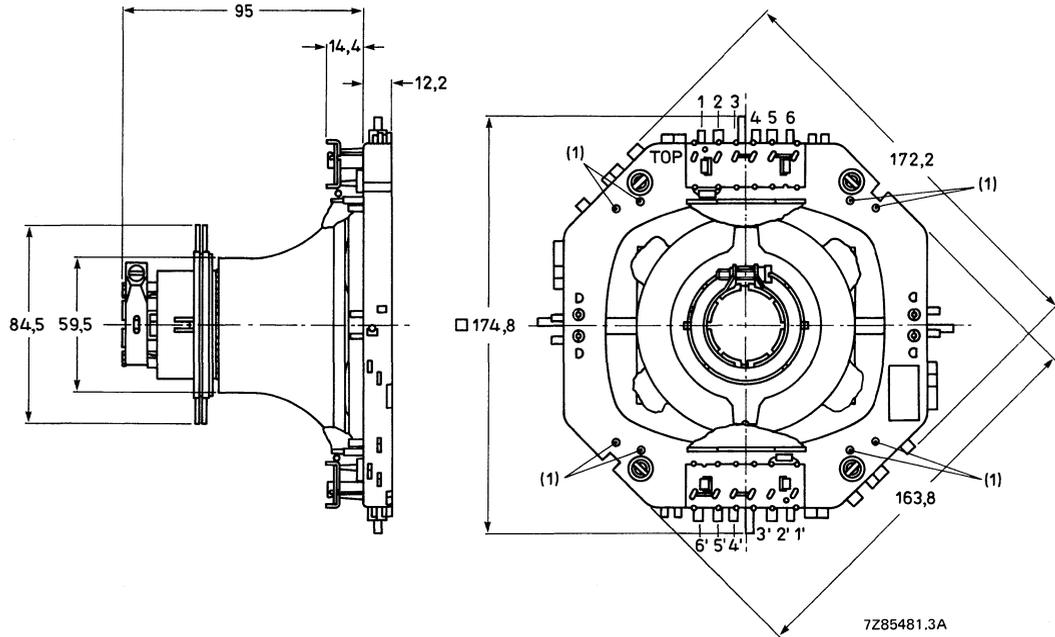
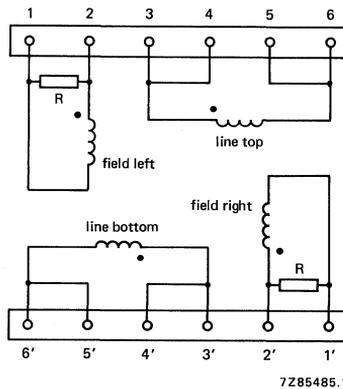

Fig. 1 Deflection unit AT1039/21.
Fig. 2 Diagram of line and field coils; R = 270 Ω . The beginning of the windings is indicated with •.
If a further improvement of raster geometry is required use can be made of correction magnets*, which must be fitted to mounting posts (1). The unit has solder pins for connection. The pin numbering in Fig. 1 corresponds to that in Fig. 2.